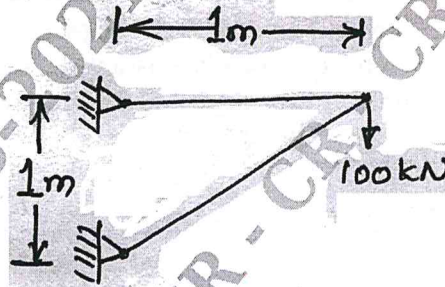

Fig Q6(b)
b. Determine the nodal displacement and stress in each element for the truss shown in Fig Q6(b), Take  $E = 210\text{GPa}$ ,  $A = 0.01\text{m}^2$ .